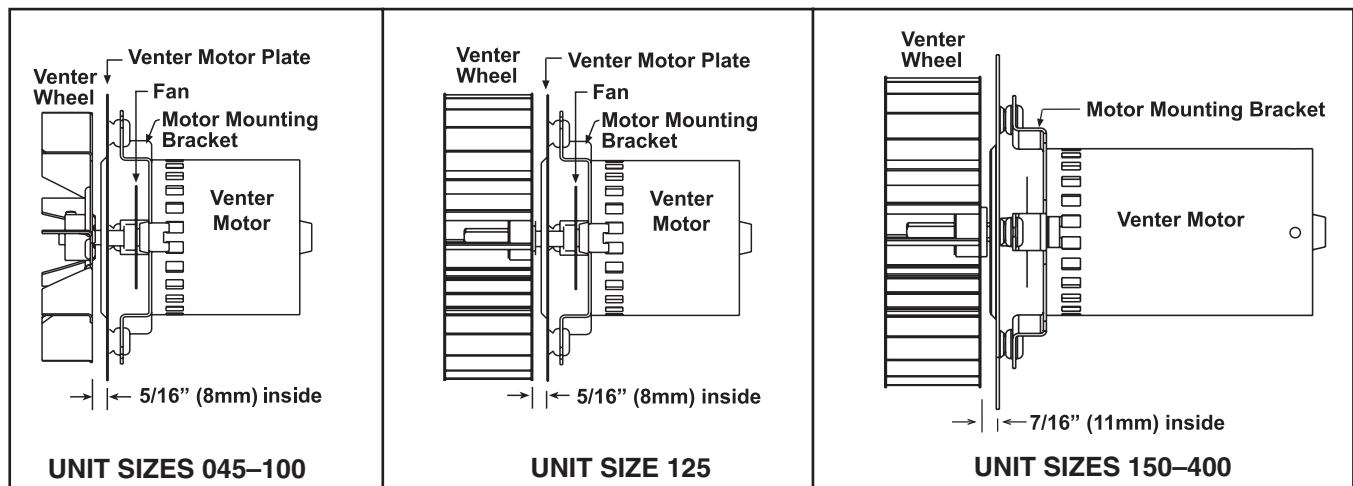

Figure 15. Venter Motor and Wheel Assembly
6. Reassemble with replacement venter motor and wheel. Ensure that venter wheel is properly positioned on shaft (see Figure 15).